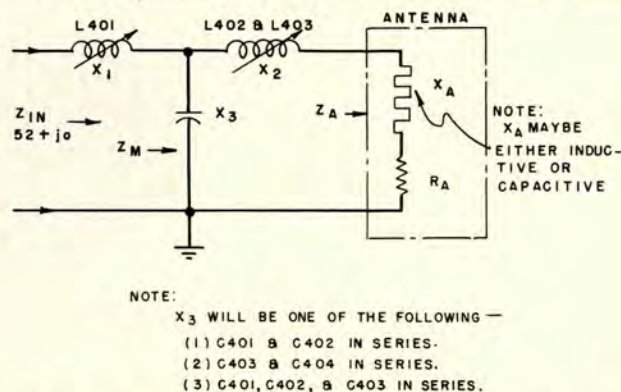

Figure 2-18. Simplified Schematic Diagram of Antenna Coupling Unit, "T"-Connected
As shown in figure 2-18, the "T" network consists of an inductive arm (L402 and L403, or L402 alone) in series with the antenna, an inductive arm (L401) in series with the transmission line, and a shunt capacity (C401-C402, C403-C404, or C401-C402-C403) between ground and the junction of the series inductors. It is the function of the network components to provide a resistive input impedance, Z_{in} , which matches the line impedance, R_L (52 ohms, resistive).
The midpoint impedance of the network (looking toward the antenna) is represented on figure 2-18 as Z_M . For any antenna with the characteristics specified in this subparagraph (18e (2)), the shunt capacity may be selected and the series inductance (L402 and L403) may be adjusted so that the impedance Z_M will be equal to a resistive value of 52 ohms (R_M) plus a capacitive reactance component (X_M). When this condition is obtained, the inductance L401 may be adjusted so that its reactance (X_L) cancels the capacitive reactance (X_M) with the result that the desired input impedance of 52 ohms resistive is presented to the line from the transmitter. The shunt capacity is made up of various combinations of two or three capacitors selected from the group of four available, C401, C402, C403, and C404.